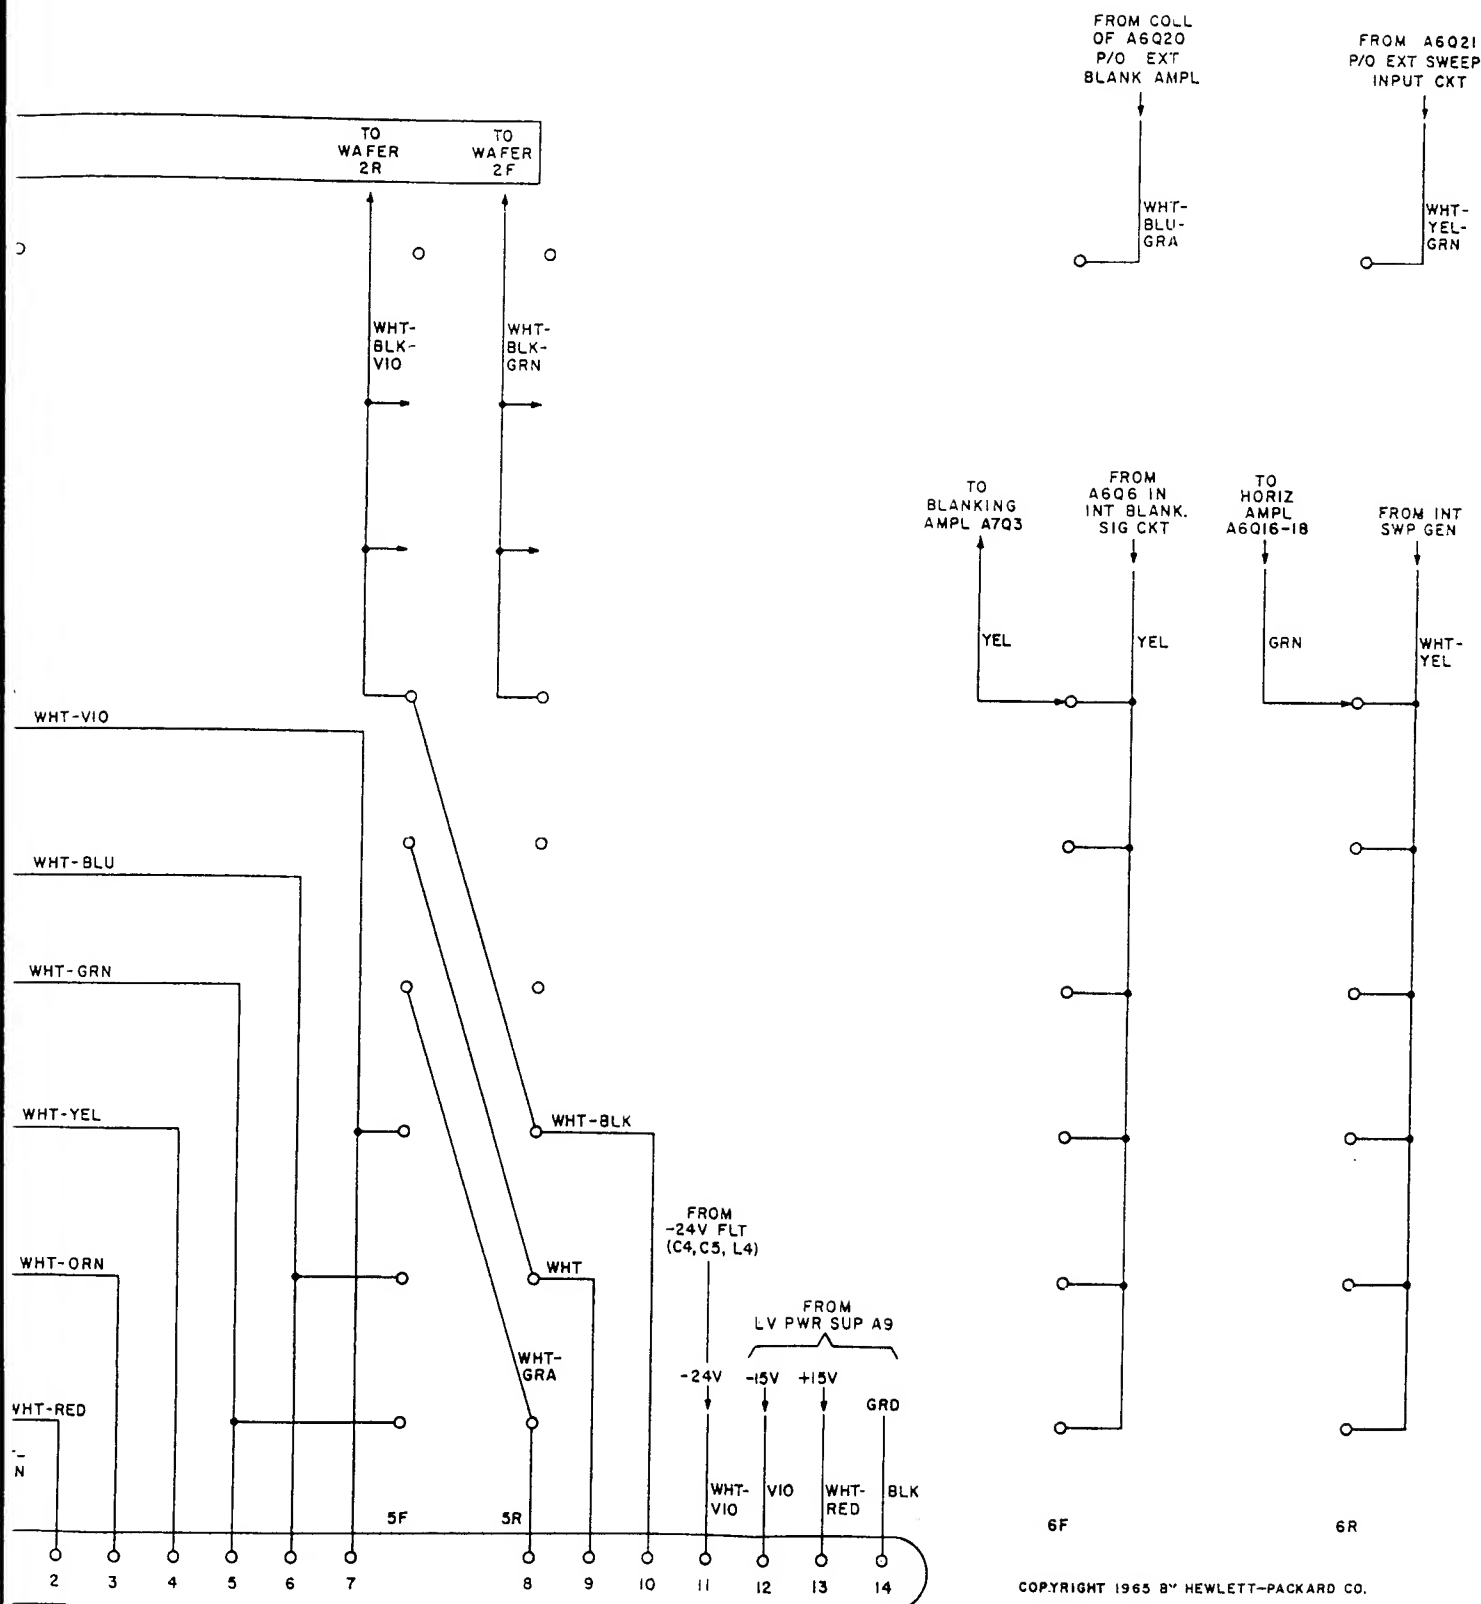

Figure 5-39. 851B SWEEP TIME Switch A10S1, Schematic
3. CONTROL CONNECTOR J9 IS ON REAR PANEL, IS SHOWN IN FIGURE 5-39.